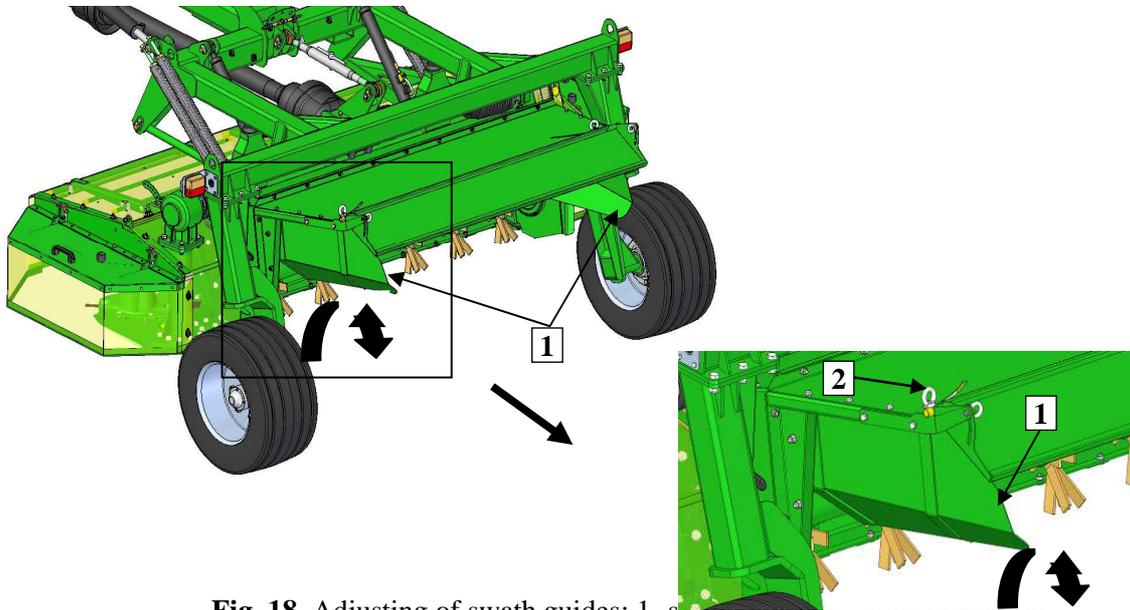

Fig. 18. Adjusting of swath guides: 1- swath guide, 2 - adjustment bolt
In order to set swath width adjust swath guides (1) (**Fig. 18**) (Models: KDC 260 S (T), KDC 300 S (T), 340 S (T)):
- loosen eye screw (2) on swath guide,
- set swath guide (1) as required,